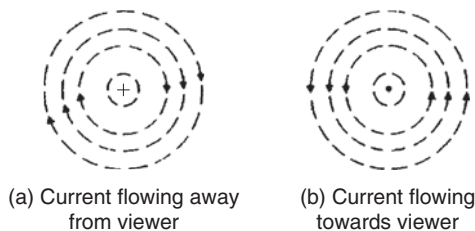
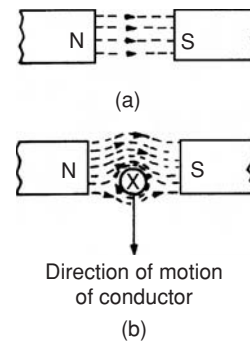

Figure 8.3
Figure 8.13
When dealing with magnetic fields formed by electric current it is usual to portray the effect as shown in Fig. 8.3 The convention adopted is:
- (i) Current flowing away from the viewer, i.e. into the paper, is indicated by \oplus . This may be thought of as the feathered end of the shaft of an arrow. See Fig. 8.3(a).
- (ii) Current flowing towards the viewer, i.e. out of the paper, is indicated by \odot . This may be thought of as the point of an arrow. See Fig. 8.3(b).
For example, with current flowing away from the viewer (Fig. 8.3(a)) a right-hand thread screw driven into the paper has to be rotated clockwise. Hence the direction of the magnetic field is clockwise.
If the current-carrying conductor shown in Fig. 8.3 (a) is placed in the magnetic field shown in Fig. 8.13(a), then the two fields interact and cause a force to be exerted on the conductor as shown in Fig. 8.13(b). The field is strengthened above the conductor and weakened below, thus tending to move the conductor downwards. This is the basic principle of operation of the electric motor (see Section 8.4) and the moving-coil instrument (see Section 8.5).